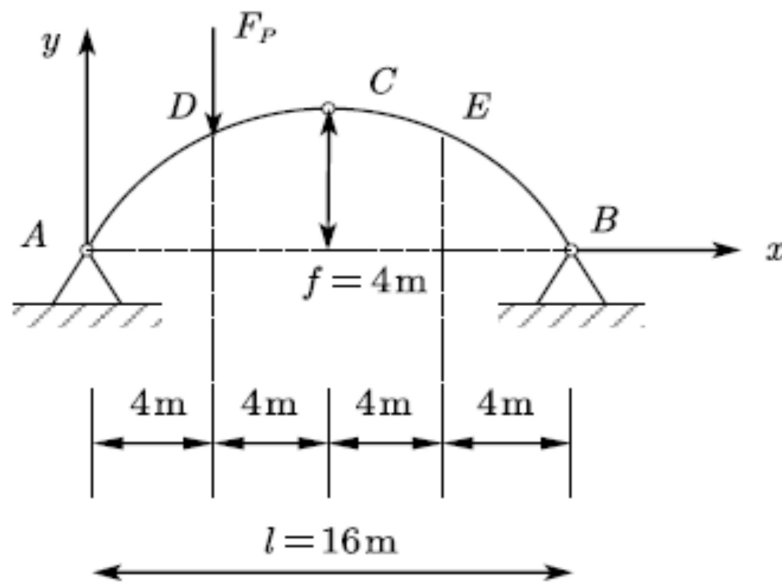

Figure 1: Elevation view of a parabolic three-pin arch.
**Question 1: 10 points.** The three-pin parabolic arch shown in Figure 1 has a profile shape,